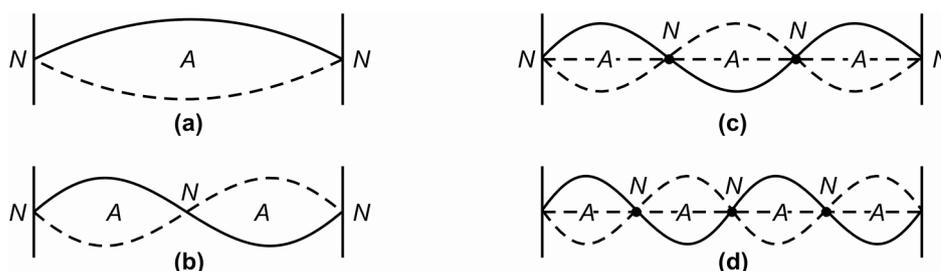

Fig. 4.2: Stationary waves set up in a wire fixed at both ends
In your school physics, you have learnt that when a vibrating tuning fork is placed on the sounding board of the sonometer, the air inside the sonometer begins to vibrate. It makes the wire to execute forced vibrations leading to formation of transverse waves. In the region $B_1 B_2$, these transverse waves are reflected at the fixed points B_1 and B_2 . As a result, we obtain a set of incident and reflected waves travelling in opposite directions. Their superposition gives rise to stationary waves. The wire between the bridges can vibrate in one or more well-defined segments, as shown in Fig. 4.2. Note that there are some points at which the wire remains motionless at all times. On the other hand, at some other points, the waves reinforce strongly and the wire vibrates vigorously. The points corresponding to zero amplitude of vibration are called nodes (N), whereas points with maximum amplitude are called antinodes (A). The simplest mode of vibration occurs when the string vibrates in a single loop (Fig. 4.2a). The frequency of vibration corresponding to this mode is known as the **fundamental frequency** of vibration.